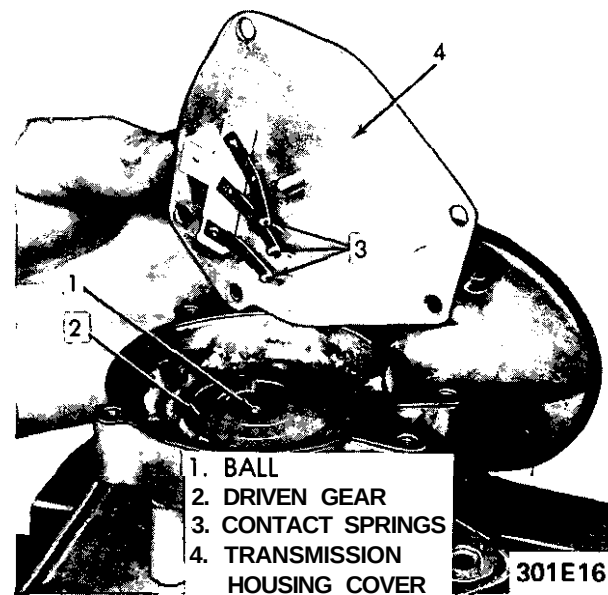

Figure 1E-16 Install Transmission Housing Cover
5. Solder positive brush lead(s) to brush holder(s). Hold brush lead with needle nose pliers to prevent solder from running up wire strands. See Figure 1E-17.